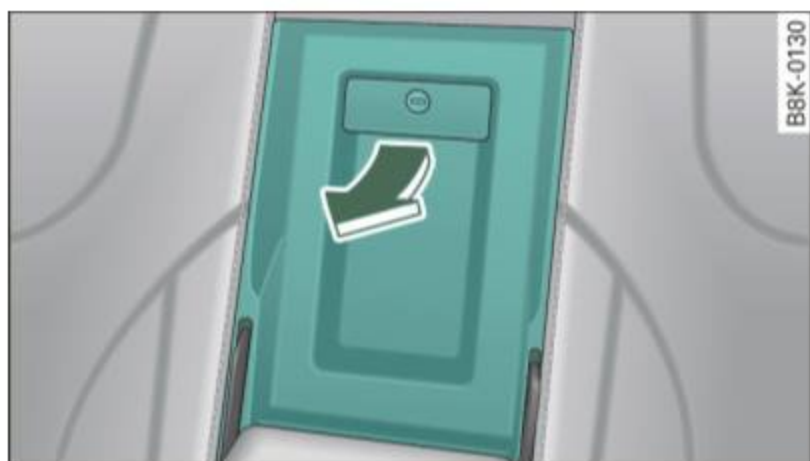

Fig. 94 Luggage compartment: ski sack flap
- Press the release button -arrow- ⇒ fig. 94 for the ski sack flap in the passenger compartment and pull down the flap.